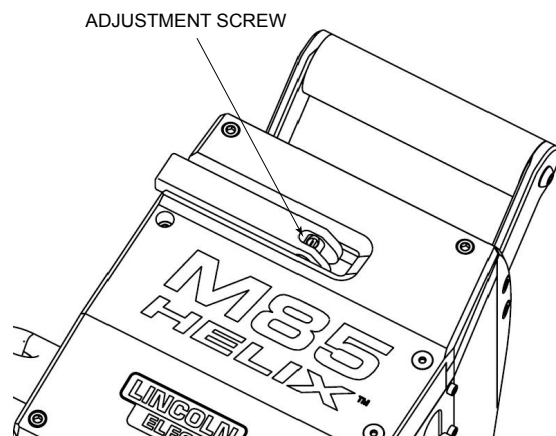

FIGURE 24 - Adjustment Screw
1. To adjust the clutch latch tension, use a flat-head screwdriver to turn the adjustment screw – see **FIGURE 24 - Adjustment Screw**. Turn the adjustment screw counterclockwise to increase the tension, turn clockwise to decrease the tension.